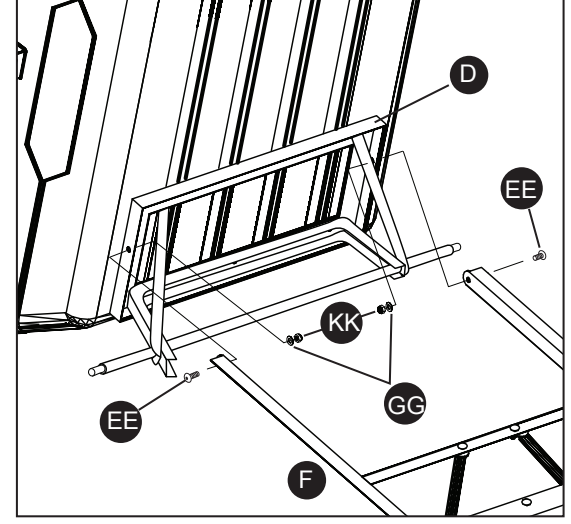

Fig. 8
6. Attach the rear frame (D) to the front frame (F) using two M8 x 20mm internal button head bolts (EE), two M8 lock nuts (KK), and two M8 washers (GG), as shown in Fig. 8.